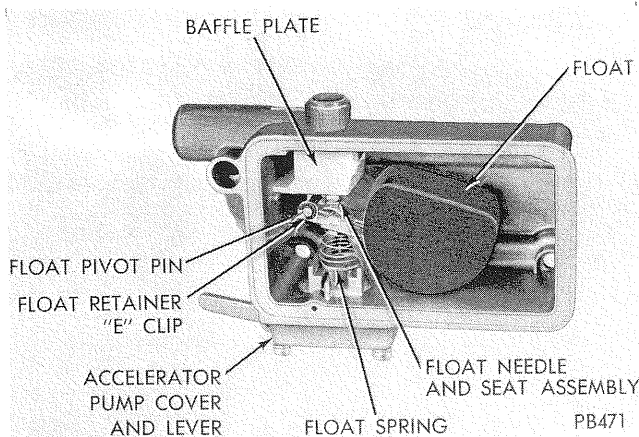

FIG. 33 Fuel Bowl Assembly Internal Fuel Inlet Valve
10. Remove fuel inlet fitting with screen or filter and gasket (Figure 33).
12. Internal Needle and Seat: Remove float retainer "E" clip, then slide float and spring out of float chamber. Remove baffle, fuel inlet valve and seat. Discard gasket (Figure 33).
FUEL BOWLS WITH INTERNALLY ADJUSTED FUEL INLET NEEDLE AND SEAT (Figure 33)